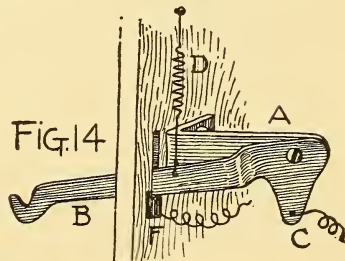

FIG. 14
inside mechanism is arranged as shown at Fig. 14. A is an angle-piece of brass or copper, which acts as a bracket and which is screwed fast to the inside of the box. B is the lever and hook, which is cut from a strip of brass. The attached end is made wider, and an ear (C), to which a wire is soldered, projects down beyond the screw.
If the boy at the left wishes to call up the boy at the right he removes the receiver (R) from the hook (L S) and presses on the button (P B). This closes the circuit through the battery (C C C), and operates the electric buzzer or bell (E B 2) at the other end of the system, through line No. 1 and line No. 2. The operation may be clearly understood by following the lines in the drawing with a pointer. The boy at the left may keep on calling the boy at the right so long as the receiver (R 2) hangs on the lever (L S 2) and holds it down against the plate (A A). But directly the receiver (R 2) is removed, the lever (L S 2) flies up—being drawn upward by the spring (D) shown in Fig. 14—and closes the telephone circuit through the spring-contact (B B), at the same time cutting out the bell circuit. The boy at the left having already removed his receiver, the telephone circuit is then complete through lines Nos. 1 and 2 and batteries C C C and C 2 C 2 C 2, the boys at both ends speaking into the transmitters and hearing through the receivers. The contacts B and B B are made from spring-brass or copper, and are attached inside the boxes at the back, so that when the levers are up contact is made, but when down the circuit is broken or opened. In Fig. 18 an interior view of a box is shown, the door being thrown open and the receiver left hanging on the hook.